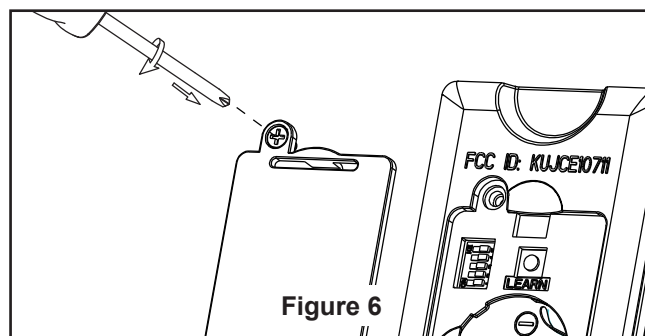

Figure 6
- ☐ 6. Secure the steel cap to light kit wire cover by twisting in a clockwise direction. Do not over-tighten. (Figure 6)
- ☐ 8. Replace battery cover on the remote control and secure with the previously removed screw. (Figure 6)